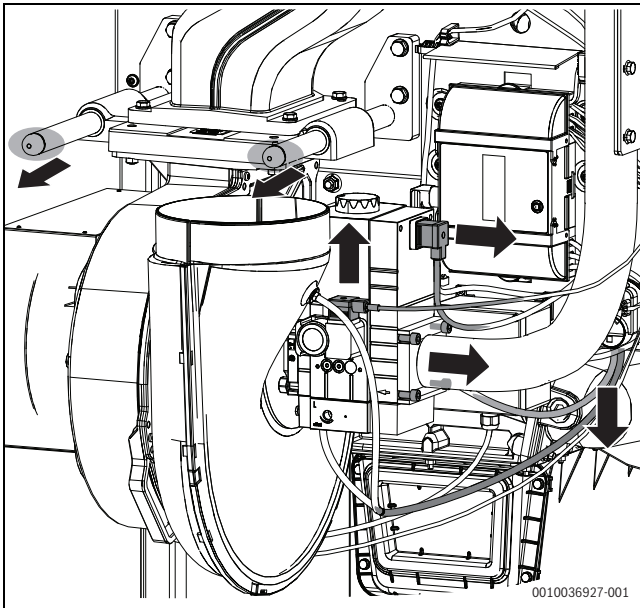

Fig. 54 Removing the burner
- ▶ Undo the electrical connections at the air/gas ratio control valve and fan (→Fig. 54, page 43).
- ▶ Remove the hoses on the differential pressure sensor (→Fig. 54).
- Remove the plug screw on the air/gas ratio control valve (→Fig. 54).
- Remove the hoses on the differential pressure sensor (→Fig. 54).
- Remove the 4 screws on the flange of the gas pipe (→Fig. 54).
- Remove the O-ring on the guide pins of the burner sled (→Fig. 54).